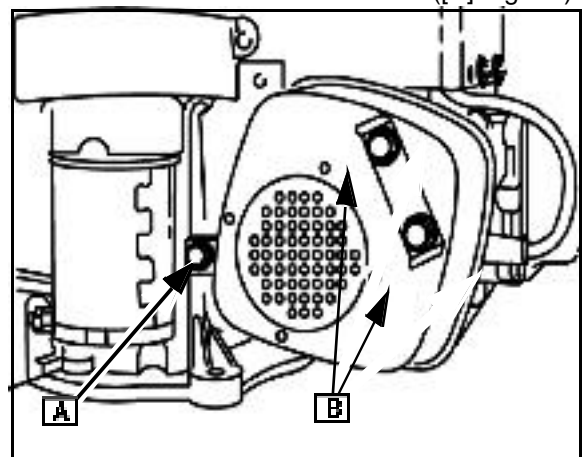

Fig. 29
1. Remove muffler brace screw ([A] Fig. 29).
2. Band back locking tabs ([B] Fig. 29).